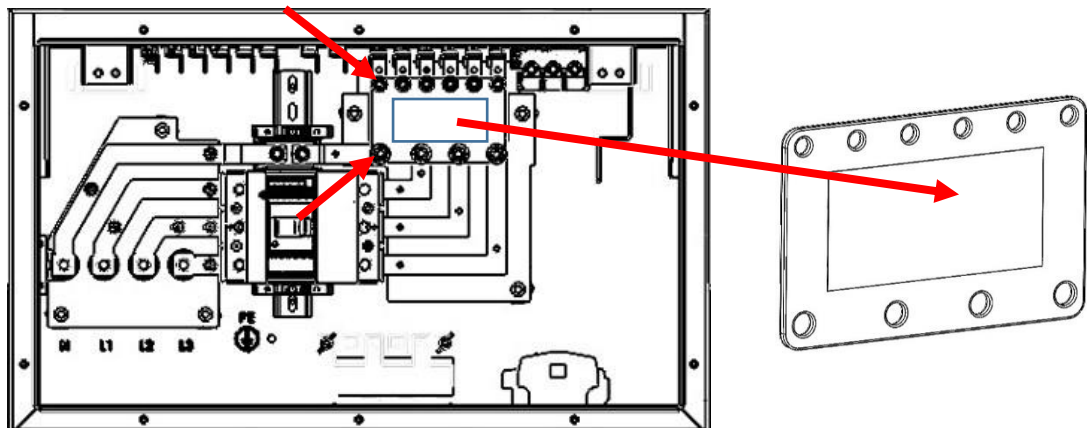

Figure 24 - M6 and M8 socket head cap screws must be removed to remove plastic spacer plate
4. Remove the six M6 and four M8 socket head cap screws that secure plastic spacer plate to Bus Bar (Figure 24), remove spacer plate from Bus Bar, and discard spacer plate.